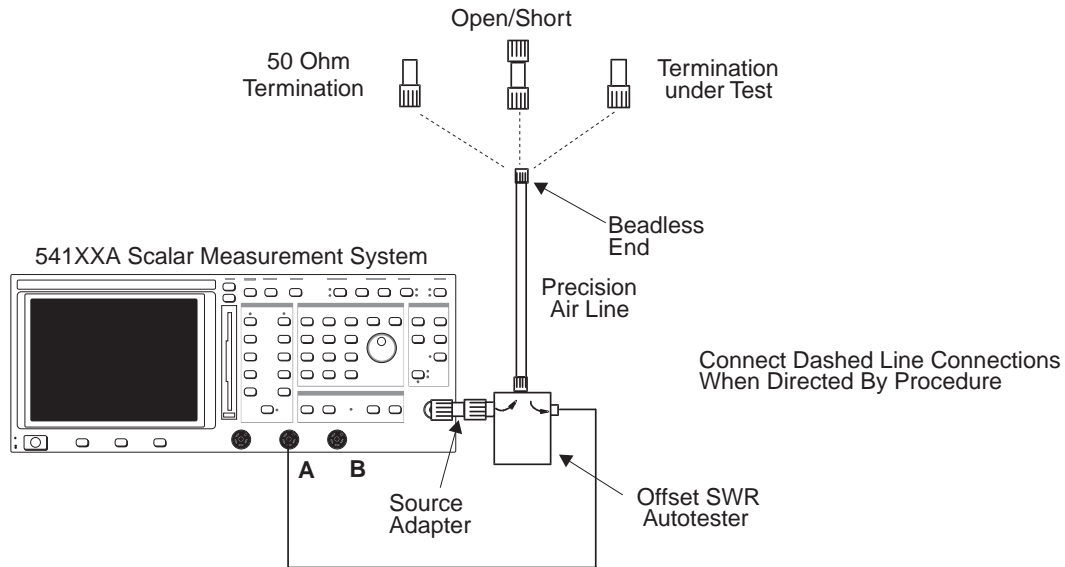

Figure 4. 541XXA Precision Return Loss Setup
1. Connect the test equipment as shown in Figure 4, page 5.